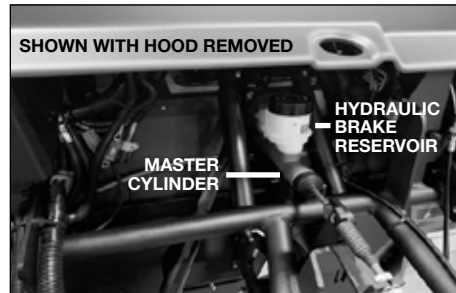

figure 4.16 (hydraulic brake reservoir location)
- For the REAR of the vehicle, place a straight edge (or 2' level) placed vertically at the 12 and 6 o'clock position. Using a digital or dial type angle gauge, adjust the wheel end to achieve 1 deg POSITIVE camber (top of wheel outboard slightly) by rotating the radius arms to the correct position. DO NOT tighten the radius arm fasteners until the TOE adjustments have been made. (REF FIG 4.16)
Hydraulic Brakes - 2WD / 4WD (refer to figure 4.16)